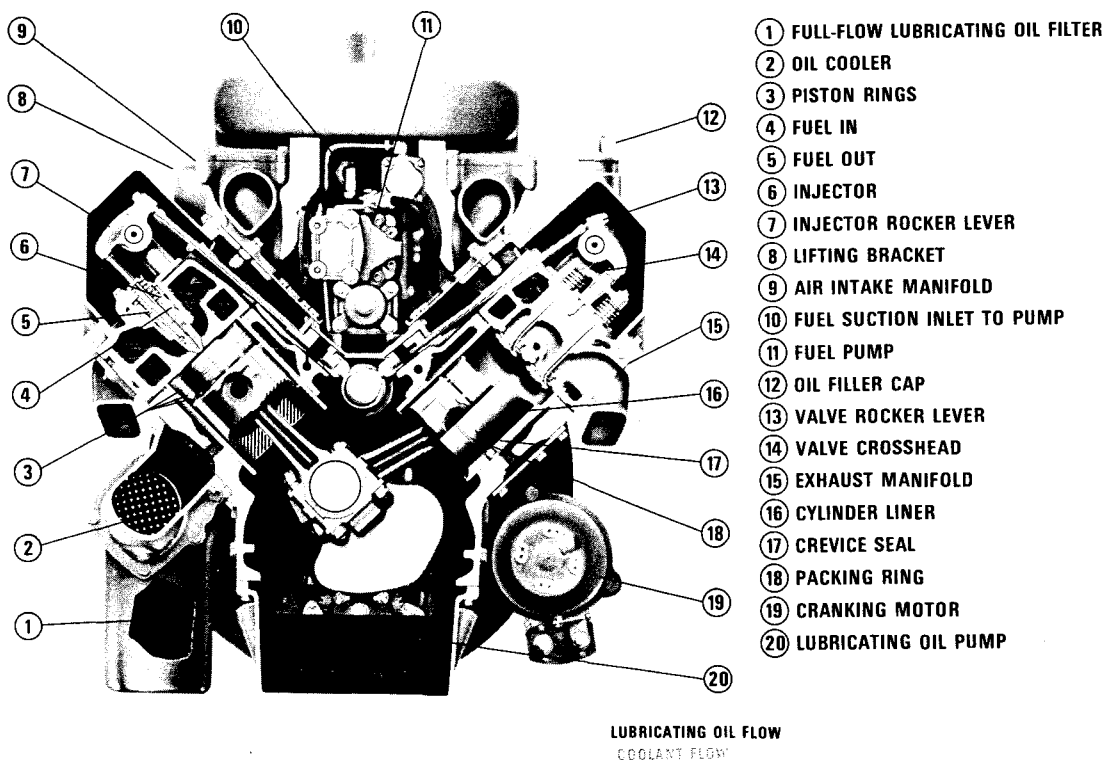

Fig. 5-21, (LWC-4). Lubricating oil and coolant flow — Medium Duty Vee Series
1. Oil flows from filter to right bank oil drilling at rear of engine to accessory drive gear, rear cam bushing and rear main bearing which in turn supplies the two rear connecting rods. Fig. 5-21.